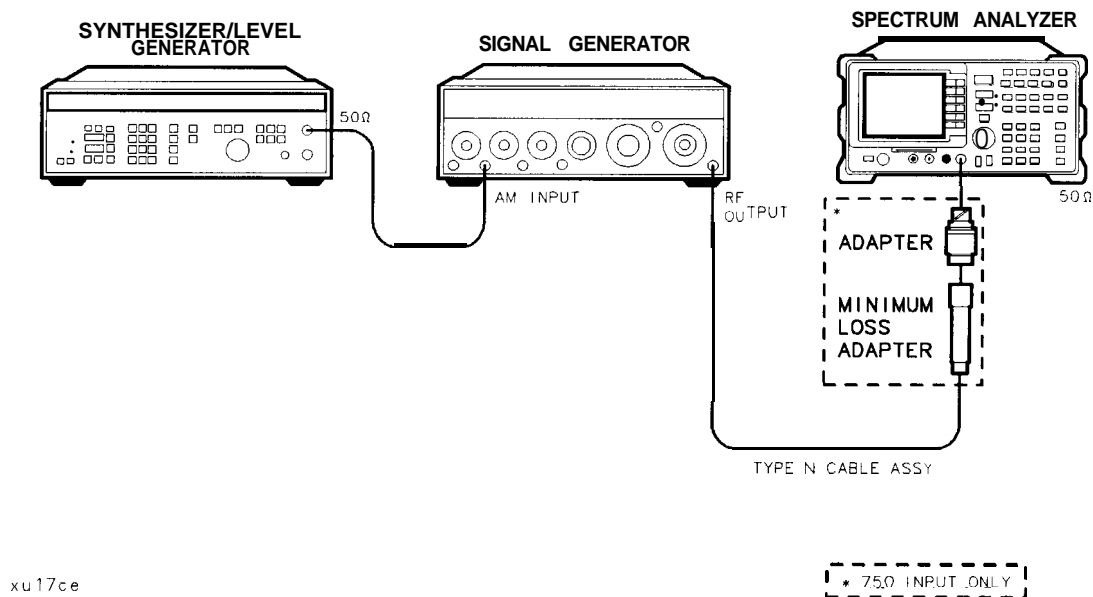

Figure 2-84. Fast Sweep Time **Test** Setup, 75  $\Omega$  input
- Connect the equipment as shown in Figure 2-84.